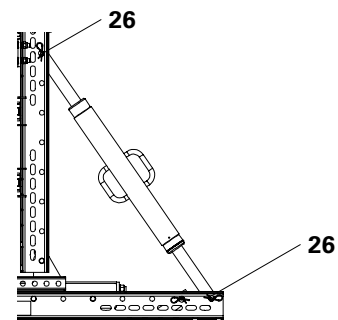

Fig. B8.02b
5. Bolt the Heavy-Duty Spindle SLS (2a) between the Steel Waler SRU U120 (1c) and Steel Waler SRU U120 (1e) using 2x fitting pins \varnothing 21 mm (26). (Fig. B8.02b)